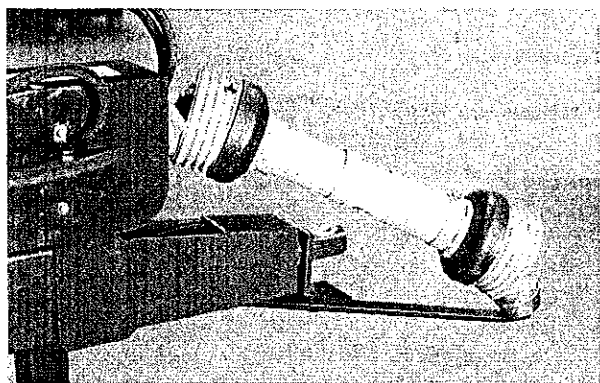

Figure 9. PTO and PTO Holder.
**Power Take Off** - The Vertical Tub Mixer is shipped with the PTO and the PTO holder loose. Attach the PTO holder to the underneath side of the tongue with the supplied hardware as shown in Figure 9. Attach the PTO and attach the shield chain to the mixer. If the PTO halves become separated, clean the sliding tubes so they are free of dirt and foreign material. If the halves do not slide easily, premature failure of the universal joints could result.